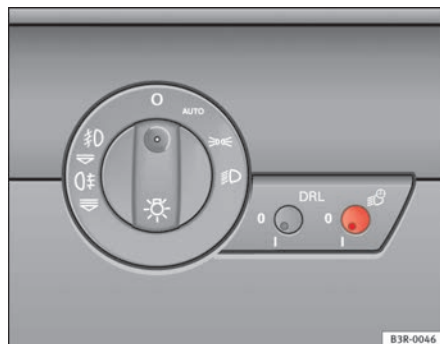

Fig. 85 Detailed view of the instrument panel: Coming home and leaving home functions
- Briefly press the knob ⇒ **fig. 85** to release it from its set position.